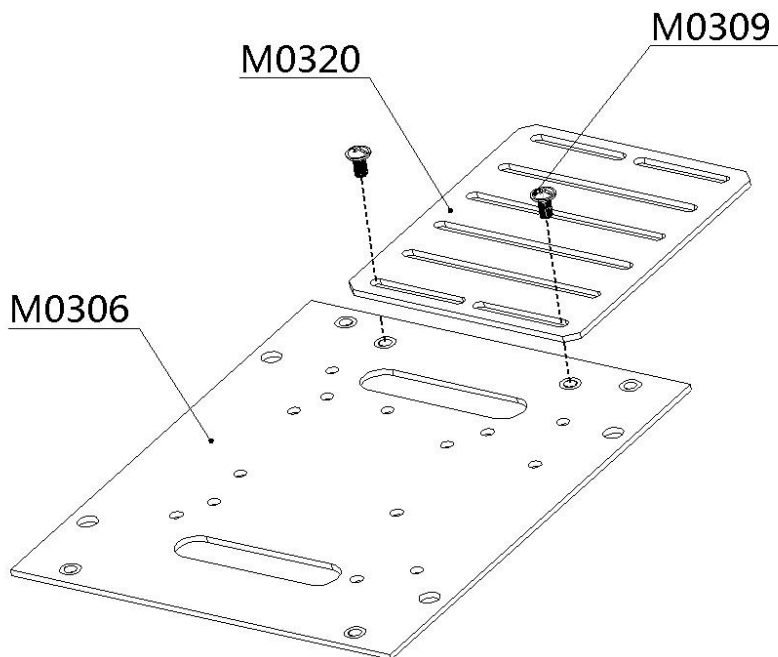

Figure 4-7
13. Figure 4-7; use flange screws to fix the sensor mounting grill to the bracket. This grill is an option to use if you have any other sensors to install.